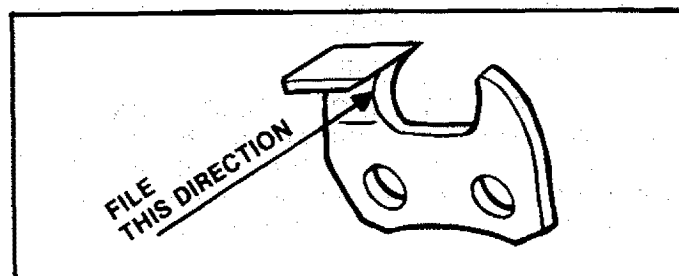

Figure 40
- File from inside toward outside of cutter, straight across, in one direction only. Use 2 or 3 strokes per cutting edge. Figure 40.